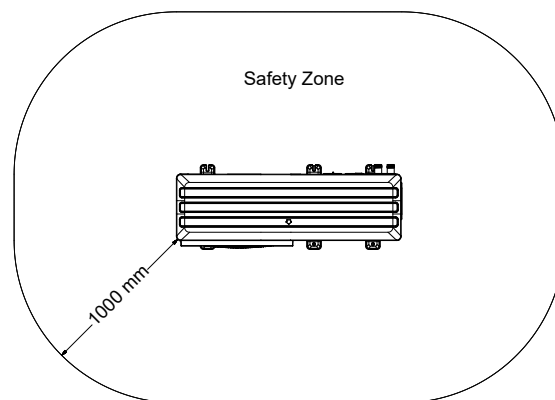
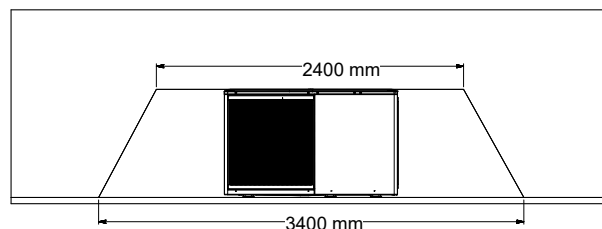
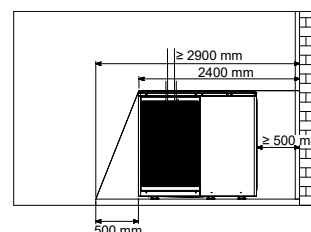

Figure 22. Freestanding installation
Figure 23. Installation in front of wall
Figure 24. Installation in corner
The protective safety zone is dependent on the installation areas and adjacent structural installations. See *Figure 22*, *Figure 23* and *Figure 24* to determine the extent of the protective safety zone.
① **IMPORTANT:** Dimensions shown in *Figure 22*, *Figure 23* and *Figure 24* below are the minimum dimensions for the extent of the protective safety zone.